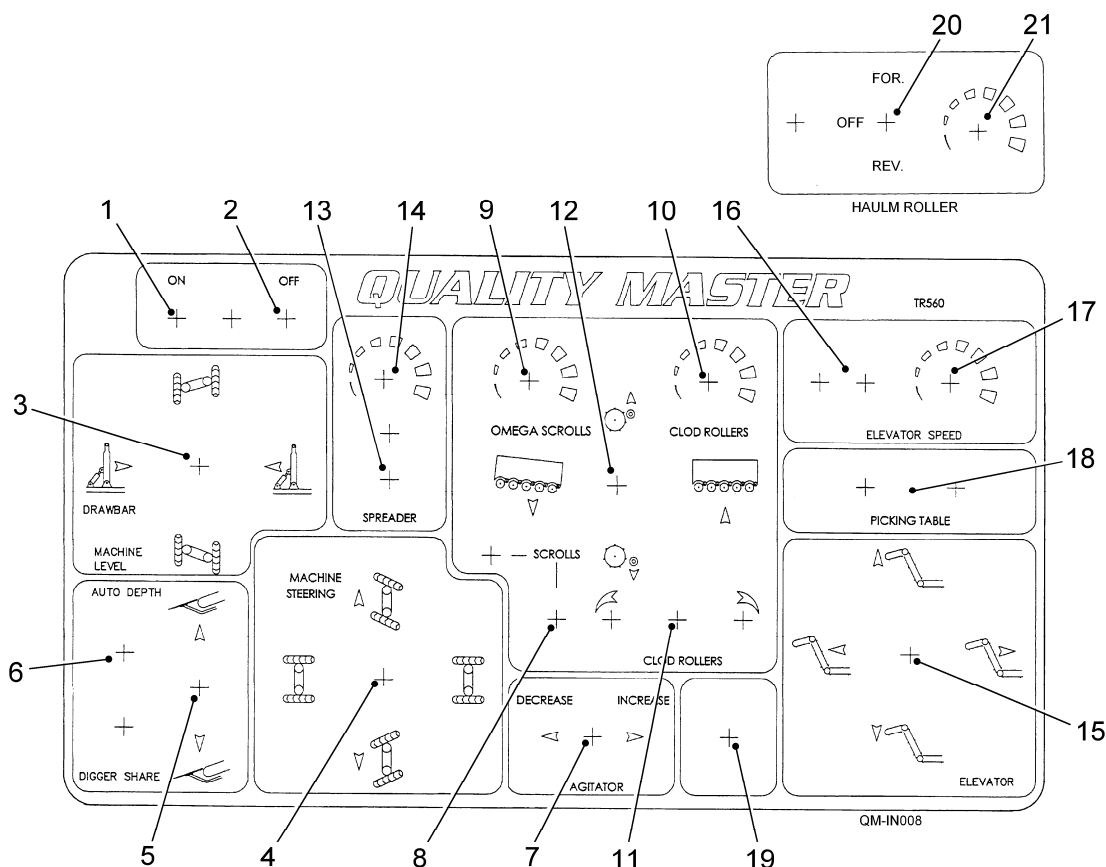

Fig. 3
The buttons (item 1 & 2, fig. 3) turn the control box ON and OFF. The adjacent LED will illuminate when the box is switched ON.
The joystick (item 3, fig. 3) controls the drawbar ram and machine levelling ram. The drawbar ram moves the front of the harvester to the left / right in relation to the tractor. The levelling ram raises / lowers the RH side of the machine.
The joystick (item 4, fig. 3) controls the wheel steering left / right and self-centring circuit. The angle of the wheels is displayed by the steering indicator (see fig 21). To centre the wheels automatically, move and hold the joystick forward or backward (indicated by the symbols) until the wheels have returned to the centre (straight ahead) position.
The switch (item 5, fig. 3) raises / lowers the digger shares in and out of work. The switch (item 6, fig. 3) turns the automatic depth control ON / OFF.
The switch (item 7, fig. 3) is supplied when optional electric pitch adjustment is fitted to the main web agitators. The pitch adjustment raises / lowers the web relative to the agitators, thus controlling the amount of agitation applied to the main web.
The button (item 8, fig. 3) turns the Omega Separator unit ON / OFF. The dial (item 9, fig. 3) controls the speed of the scrolls, and the dial (item 10, fig. 3) controls the speed of the clod rollers. The switch (item 11, fig. 3) reverses the clod rollers, and the switch (item 12, fig. 3) increases / decreases the angle of the Omega Separator unit.
The switch (item 13, fig. 3) turns the star spreader unit ON / OFF. The dial (item 14, fig. 3) controls the speed of the spreader stars.
The joystick (item 15, fig. 3) controls the discharge elevator bottom section fold in / fold out function, and the top section (swan neck) raise / lower function.
The button (item 16, fig. 3) turns the discharge elevator web drive ON / OFF. The dial (item 17, fig. 3) controls the speed of the discharge web.
The switch (item 18, fig. 3) turns the picking table unit ON / OFF.
The communication buzzer (item 19, fig. 3) can be sounded by the operatives when a picking table unit is fitted to attract the drivers attention.
The switch (item 20, fig. 3) on top of the control box is supplied when a hydraulically driven haulm extraction roller is fitted. The switch sets the haulm roller to FORWARD / OFF / REVERSE. The dial (item 21, fig. 3) controls the speed of the haulm roller.